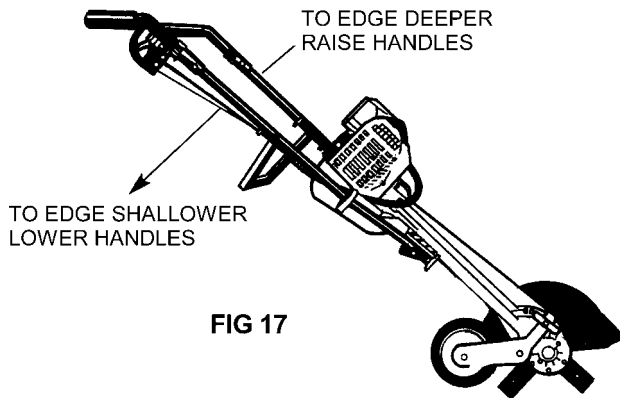

FIG 17
5. If blade is not deep enough, or if digging too deep, adjust blade height, or slightly raise or lower handles to suit depth required (Fig. 17). However, it is always more comfortable and relaxed to have arms extended downwards.